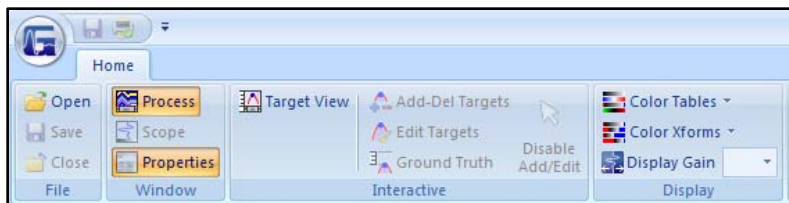

Figure 1
- 1** Click the Open icon located on the left side of the Ribbon (Figure 1). This will display a screen defaulted to the folder you set in the Global Parameters->Source Directory.